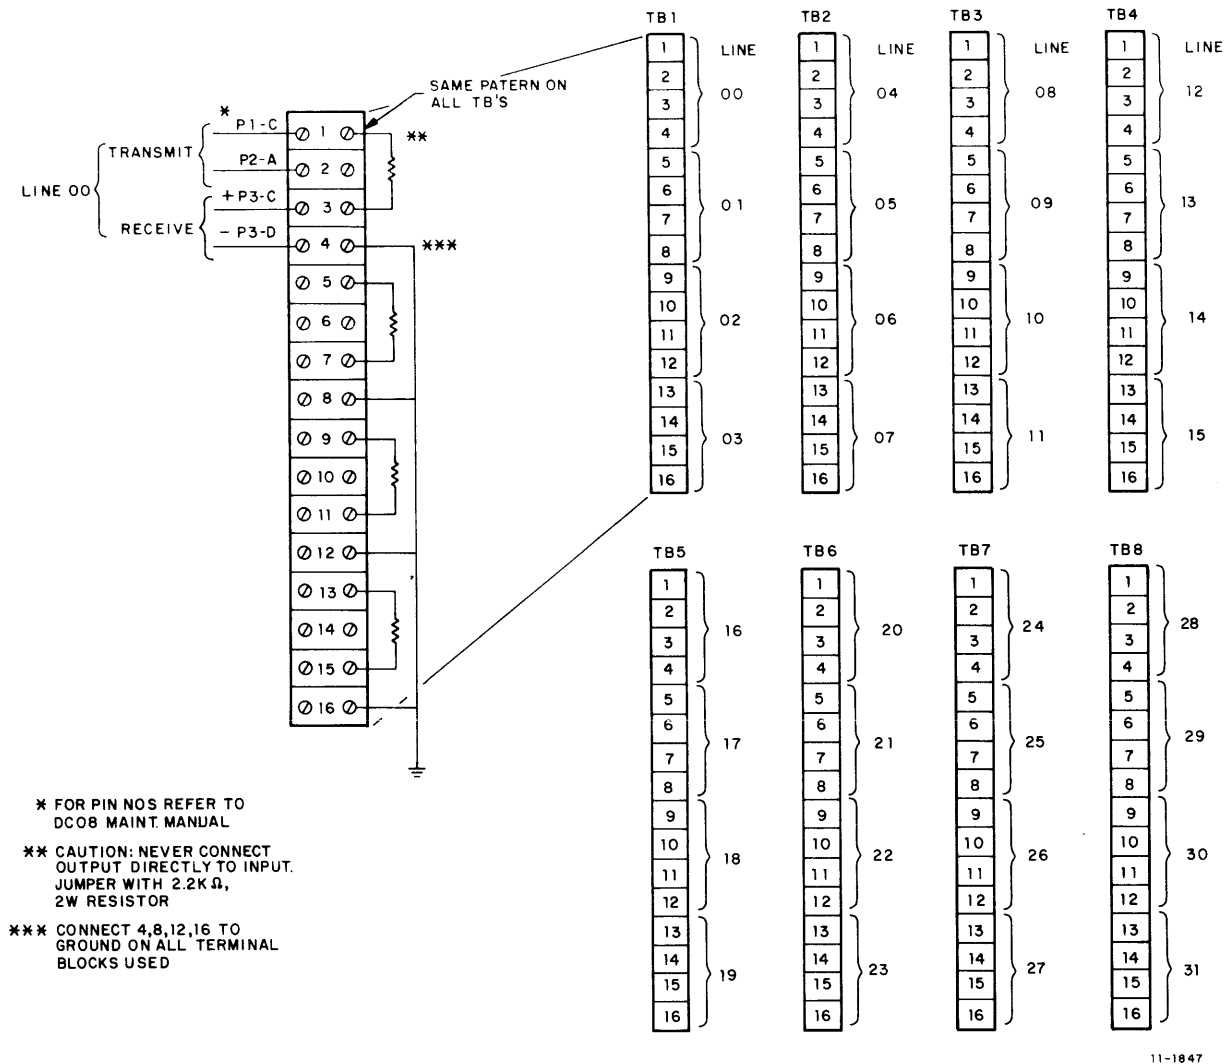

Figure 5-3 DC08-CS Test Jumper Chart
7. The only resistance in the circuit when the transmitter is looped to the receiver is 100Ω located in the relay coil. Since the maximum current through the coil is 100 mA, a current limiting resistor must be used between the transmitter and receiver. The value of the resistor is a function of the voltage used with the DC08-CS Interface. A typical resistor value would be 2.2 kΩ, 2W for a 60V battery (refer to Figure 5-3 for pins to jumper).